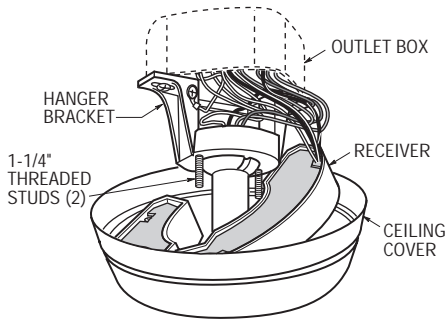

Figure 11
6. Screw the two 1-1/4" threaded studs (supplied) into the tapped holes in the hanger bracket (Figure 11).